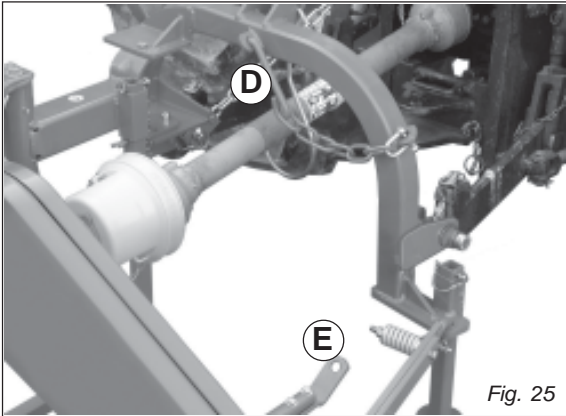

Fig. 25
- Remove safety hook (D, Fig. 25), required only for transportation, and fit it back in the slot positioned above the chassis. Reduce to the minimum length in order to hook it in (E, Fig. 25) with the sickle bar to lower.